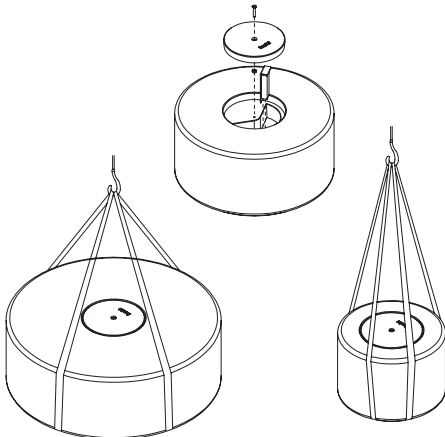

Fig. 1 Crane Install - Strap Locations (anchored)
2. Set in place with proper equipment such as a crane. See Fig. 1